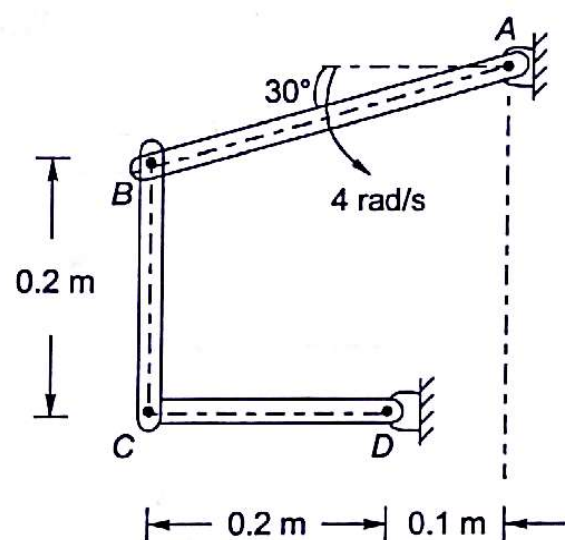

Fig. 12.16
- 12.2 A mechanism is shown in Fig. 12.16. Bar AB has a constant angular velocity of 4 rad/s, counter clockwise. Determine the angular velocity of bars BC and CD .